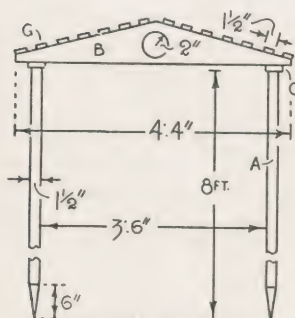
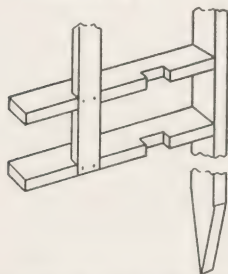

Fig. 1—Broken front view with dimensions
Fig. 3—Constructional details, showing how lathes are sunk into the post rail
Having cut and planed the posts and rails to size, point the ends of the former as seen at Figs. 1 and 3. The rails (D) are then checked $1\frac{1}{2}$ ins. by $\frac{1}{2}$ in. for the side laths (E) as shown. These rails are simply nailed (with flat nails) between the post at the distances detailed in the elevation at Fig. 2, or you could check for them $\frac{1}{4}$ in. deep in the posts.
Nail the side laths (E) into the checks (with small flat nails) as at Fig. 3. As the arch is erected in three separate portions, proceed with the construction of the roof. If the size suggested is suitable, shape the rafter pieces (B) from $\frac{5}{8}$ in. or $\frac{3}{4}$ in. stuff as detailed at Fig. 1. The top bars (C) are drilled and countersunk for $1\frac{1}{2}$ in. by 8 flathead iron screws to hold the rafters zins. from the ends. If desired, two rafters (one at each end) would suffice.